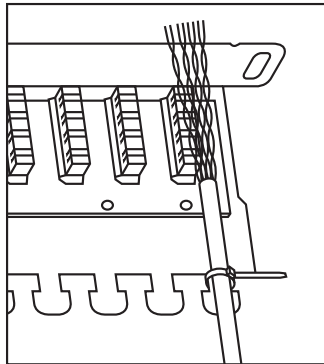

Figure 2. Installing bulk cable.
2. Fasten the cable around the bar to help hold bulk cable in place during installation. See Figure 2.